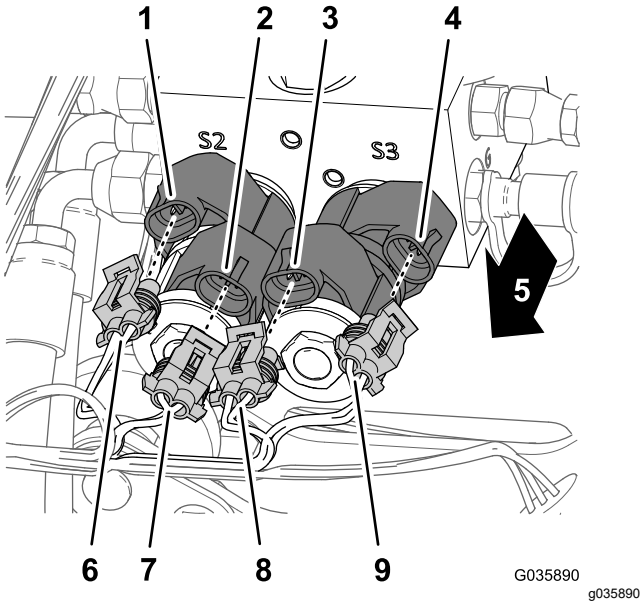

Figure 13
1. At the front of the lift-cylinder manifold, connect the 4 electrical connectors of the wire harness for the sonic boom to the solenoids for controlling boom lift as shown in Figure 13.